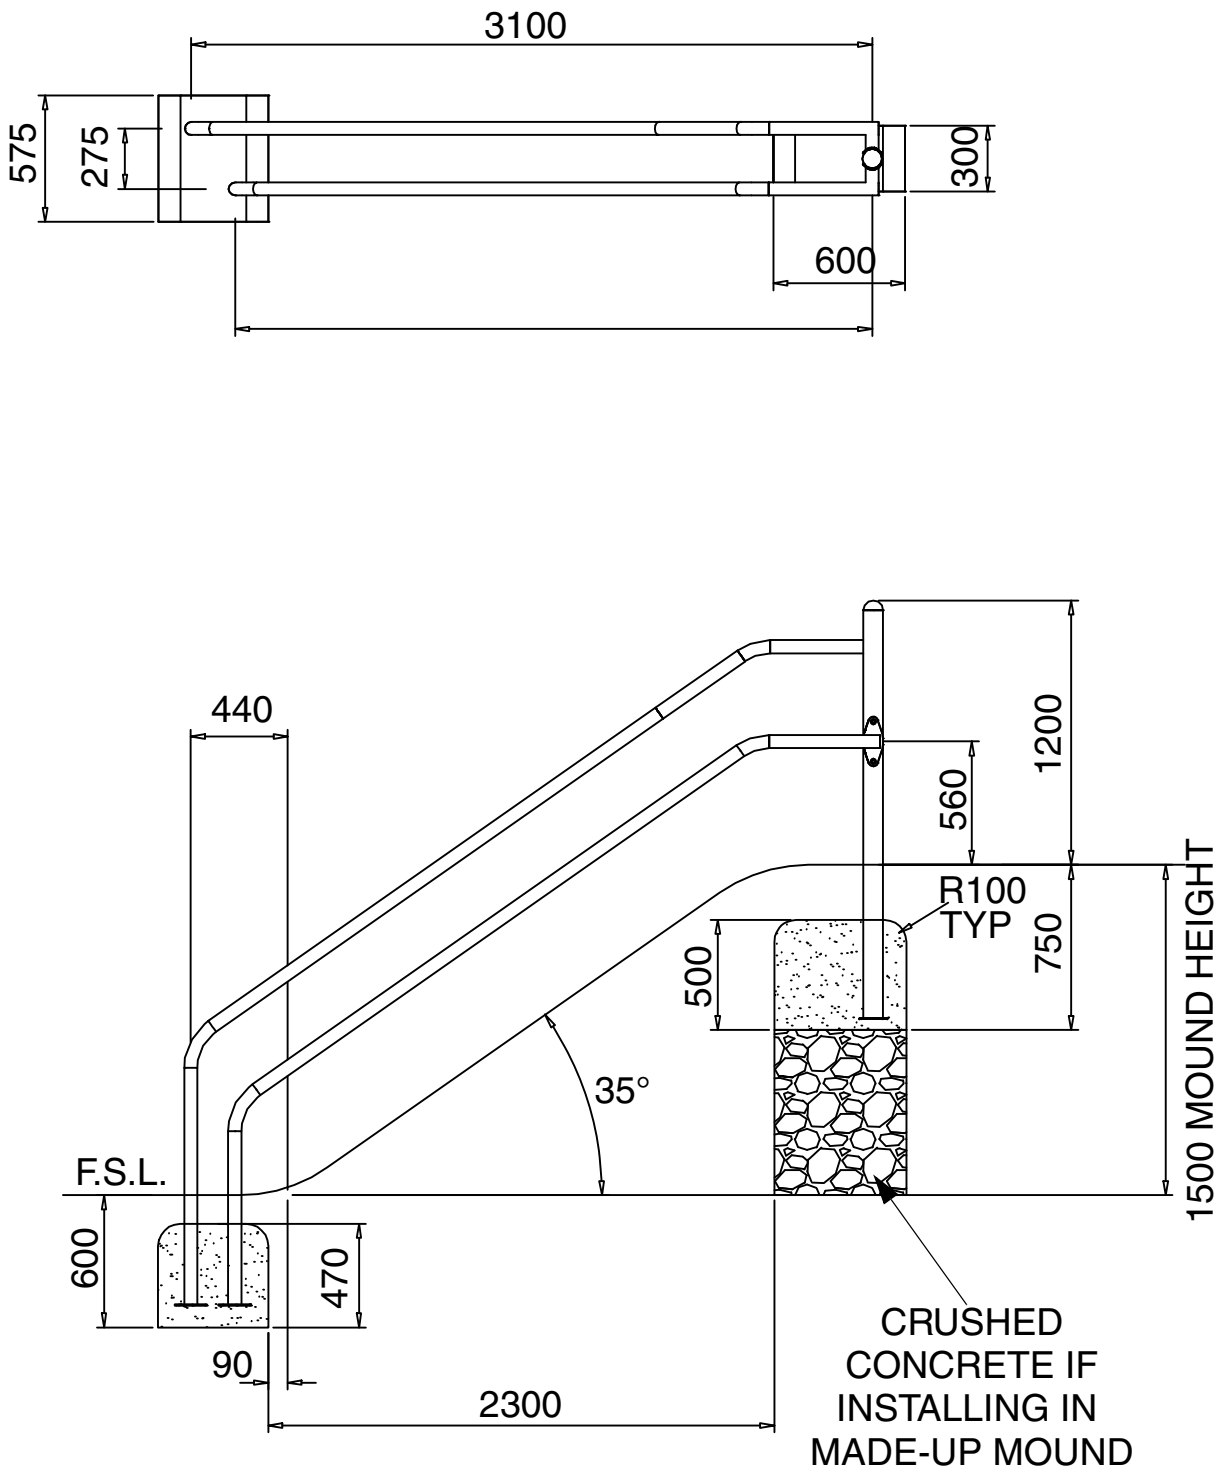

FIG.2 GRASS INSTALLATION
- ii) Place Bannister Posts (item1) into excavation, pack up to required height making sure the item is square and plum. See FIG.2 , 3 or 4 for concrete positions.